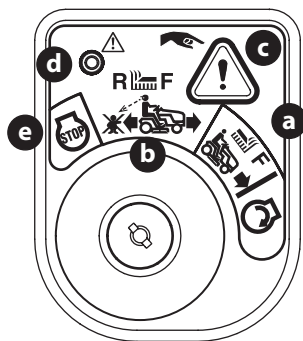

Figure 22
- Turn the key from the NORMAL MOWING MODE  (a) position to the REVERSE CAUTION MODE  (b) position of the ignition switch module (Figure 22).
- Press the REVERSE PUSH BUTTON  (c) at the top, right corner of the ignition switch module. The red indicator light (d) at the top, left corner of the ignition switch module will be ON while activated (Figure 22).
- Always look down and behind before and while backing to make sure no children are around. After resuming forward motion, return key to the NORMAL MOWING MODE  (a) position (Figure 22).
The REVERSE CAUTION MODE  (b) will remain activated until (Figure 22 on page 18):